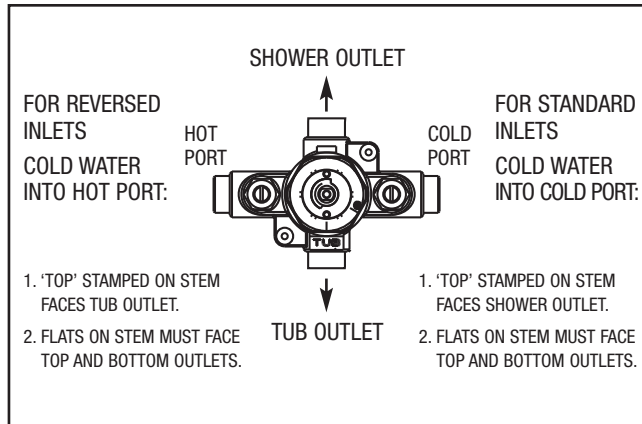

Figure 3: Stem Position Information
- For standard inlets: Valve is factory-set for standard inlets ("TOP" stamped on stem should face shower outlet "S", see Figure 3). If reversed inlets are required due to back-to-back installation (Cold water supply on the left and Hot water supply on the right), see Figure 3 and follow instructions a-d below: